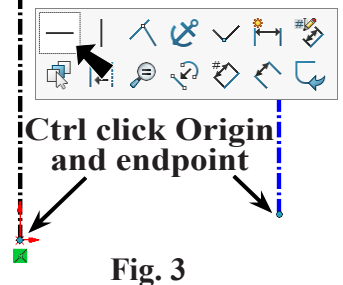

Fig. 3
Step 6. **Ctrl click Origin**  and **bottom endpoint of second centerline** to select both. Release Ctrl key and click **Make Horizontal**  on the context toolbar, **Fig. 3**.